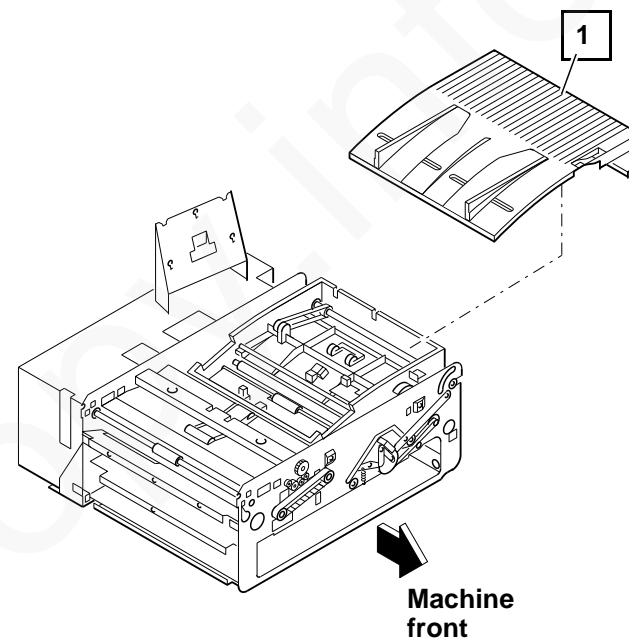

**Figure 1. Printer Cover Assembly
- b. Install the cover with the security lock in reverse order making sure the security lock cam is parallel with the top cover as seen through the cut-out (Figure 1).